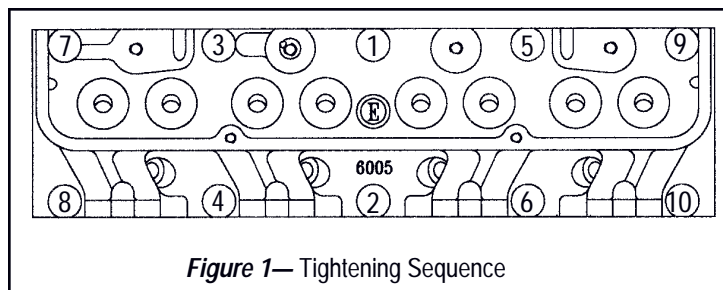

Figure 1— Tightening Sequence
- Installation is the same as for original equipment cylinder heads. Consult service manual for specific procedures, if necessary. Use Fel-Pro head gasket #1020 or equivalent. Be sure that the surface of the block and the surface of the head is thoroughly cleaned to remove any oily film before installation. Use alcohol or lacquer thinner on a lint-free rag to clean. Apply moly-oil mixture to head bolt threads, washer, and area under head bolt to prevent galling and improper torque readings. Torque top row of bolts to 110 ft./lbs. and bottom row to 100 ft./lbs. in three or four steps following the factory tightening sequence (see Figure 1). A re-torque is recommended after initial start-up and cool-down (allow 2-3 hours for adequate cooling).